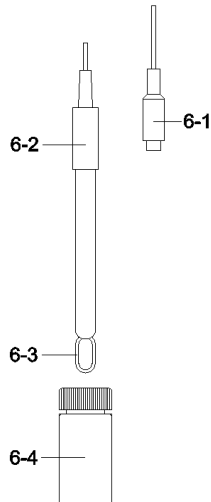

Fig. 3
- 1) Prepare the Conductivity Probe (included, CDPB-04), install the " Probe Plug " (6-1, Fig. 3) into the " CD Socket " (3-15, Fig. 1).
- 3) Hold the " Probe Handle " (6-2, Fig. 3) by hand and let the " Sensing head " (6-3, Fig. 3) immersed wholly into the measured solution. Shake the probe to let the probe's internal air bubble drift out from the sensing head.
2) Install the " Probe Plug " (6-1, Fig. 3) into the " CD Socket " (3-15, Fig. 1).
- 4) Hold the " Probe Handle " (6-2, Fig. 3) by hand and let the " Sensing head " (6-3, Fig. 3) immersed wholly into the measured solution. Shake the probe to let the probe's internal air bubble drift out from the sensing head.Display will show the conductivity mS (uS) values.